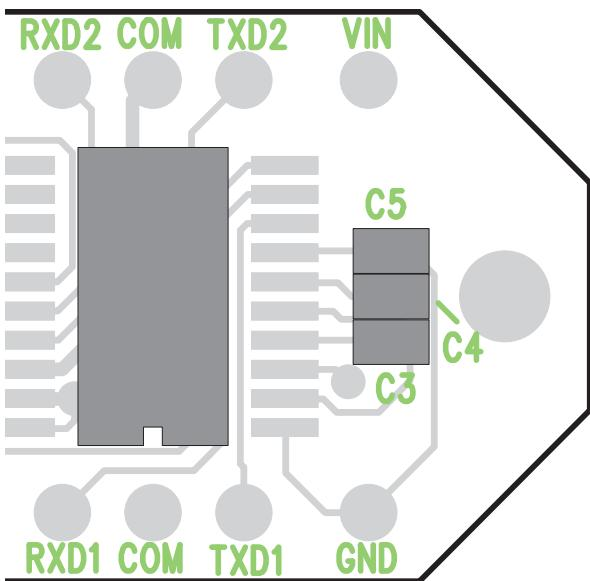
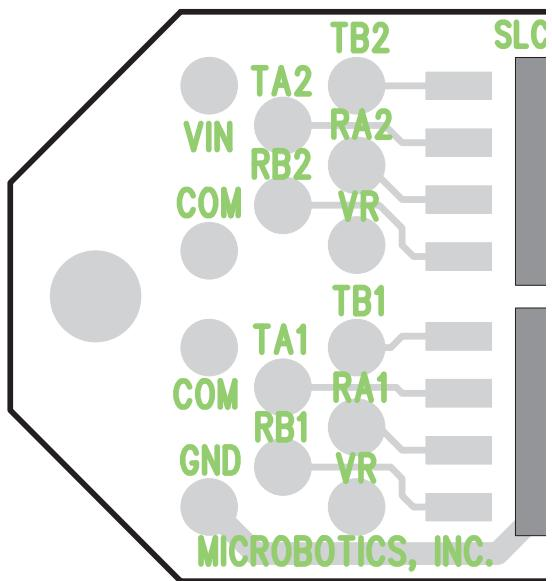
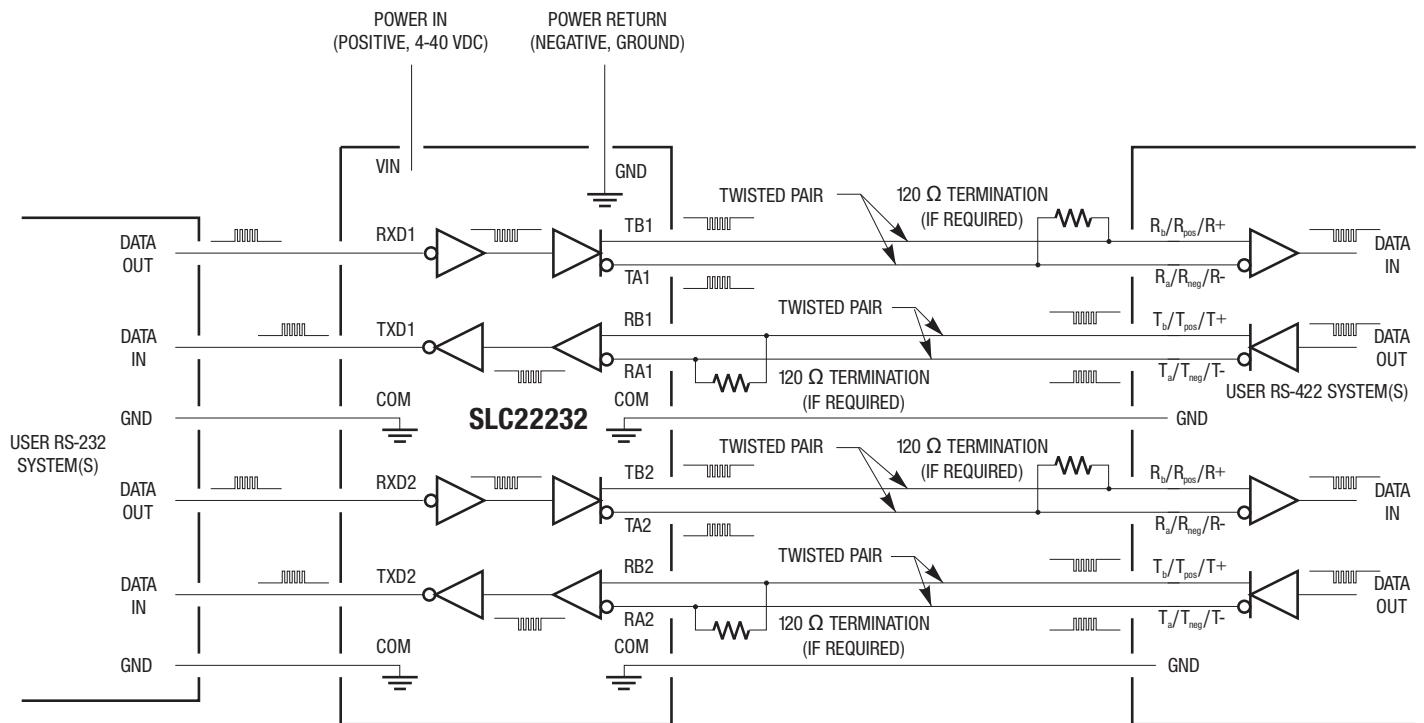
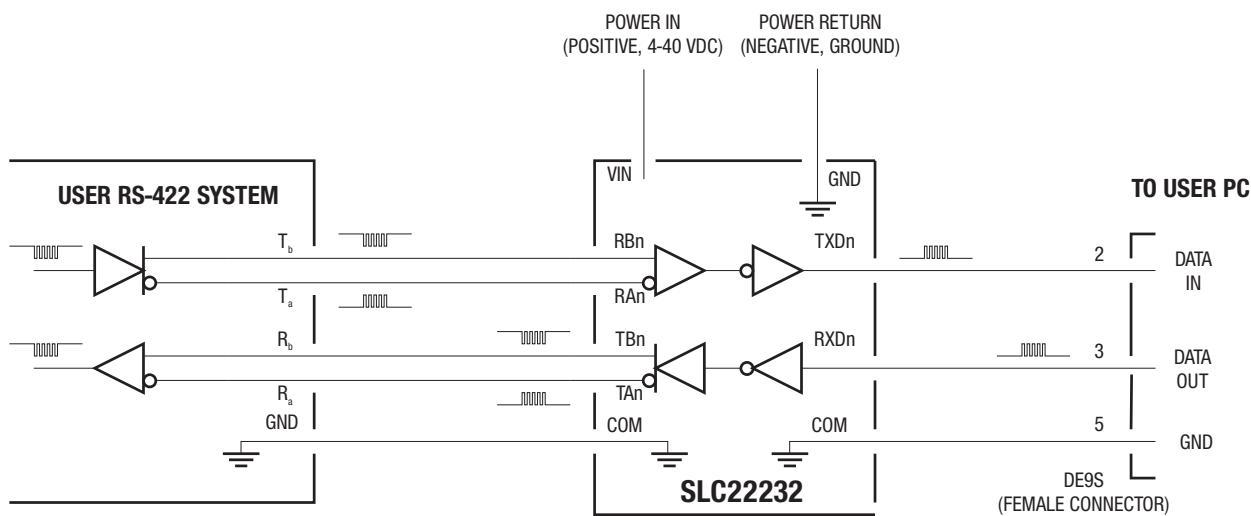

Figure 2. RS-232 Signals.
Figure 3. RS-422 Signals.
Figure 4. Typical User Connections to the SLC22232 Board.
Figure 5. Using a Channel of the SLC22232 to Interface a PC to an RS-422 System.
2 Wiring the SLC22232 to the User System. Connections to the SLC22232 are normally made via direct wiring to the holes on the board. **Extreme care should be taken when soldering to the board to prevent damage to the pads or adjacent components.** The RS-422 signals are grouped at one end of the board (Figure 2), while the RS-232 signals are grouped at the other end (Figure 3). Power input and return lines are available at both groups of signals. The signal pads for the SLC22232 are:
2.2 RS-232 Connections. Six signal lines are used for RS-232 connections (Figure 2). The **RXD1** line is the RS-232 signal *received by the SLC22232* from the user system, which is then passed to the **TA1** and **TB1** outputs. The **TXD1** line is the RS-232 signal *transmitted by the SLC22232* to the user system, having been passed from the **RA1** and **RB1** inputs. The **RXD2** line is the RS-232 signal *received by the SLC22232* from the user system, which is then passed to the **TA2** and **TB2** outputs. The **TXD2** line is the RS-232 signal *transmitted by the SLC22232* to the user system, having been passed from the **RA2** and **RB2** inputs. The **COM** lines are signal Ground returns for the RS-232 signals, and **must** be connected to the Grounds of *each* of the user RS-232 Ports. Figure 4 shows a typical connection for the RS-232 signals, while Figure 5 shows a typical channel connection to a user PC. **FAILURE TO CONNECT THE COM LINES TO EACH OF THE USER PORT GROUNDS MAY CAUSE ELECTRICAL FAILURE OF THE SLC22232 AND VOIDS THE BOARD WARRANTY.**
2.3 RS-422 Connections. Ten signal lines are used for RS-422 connections (Figure 3). The **TA1** and **TB1** pair is the differential signal *transmitted from the SLC22232* to the user system, having been passed from the **RXD1** input. The **RA1** and **RB1** pair is the differential signal *received by the SLC22232* from the user system, which is then passed to the **TXD1** output. The **TA2** and **TB2** pair is the differential signal *transmitted from the SLC22232* to the user system, having been passed from the **RXD2** input. The **RA2** and **RB2** pair is the differential signal *received by the SLC22232* from the user system, which is then passed to the **TXD2** output. Note that, in both transmitter and receiver signals, the '**A**' references the *negative* signals, while the '**B**' references the *positive* signal. The **COM** lines are signal Ground returns for the RS-422 signals, and *must* be connected to the Grounds of *each* of the user RS-422 ports. Figure 4 shows a typical connection for the RS-422 signals. **FAILURE TO CONNECT THE COM LINES TO EACH OF THE USER PORT GROUNDS MAY CAUSE ELECTRICAL FAILURE OF THE SLC22232 AND VOIDS THE BOARD WARRANTY.**